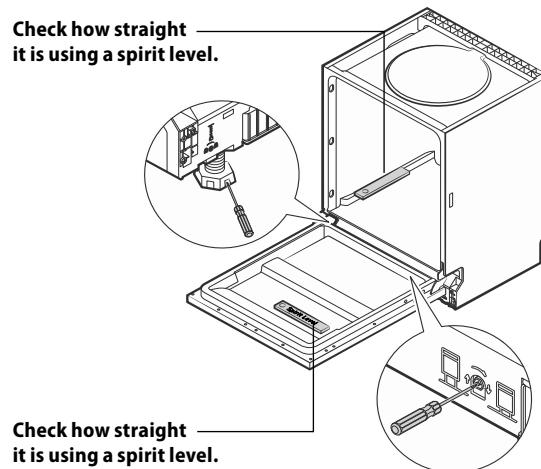

Fig. 16
8. Use the feet at the front and back of the appliance to level it to a horizontal position. Adjust the back feet by turning the screw on the bottom of the front side of the appliance (step 5). Adjust the front feet by turning screws located near the feet themselves (step 5B). Use a spirit level Fig. 16.